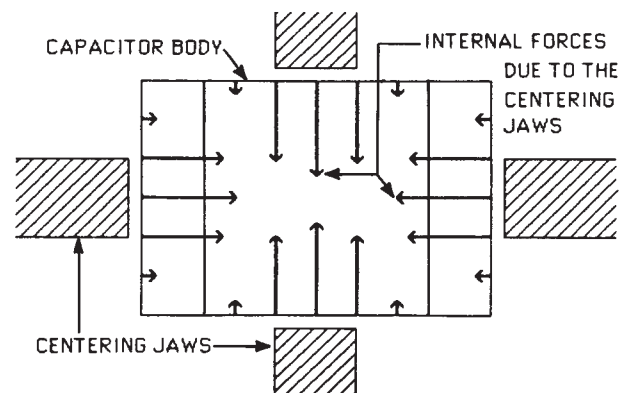
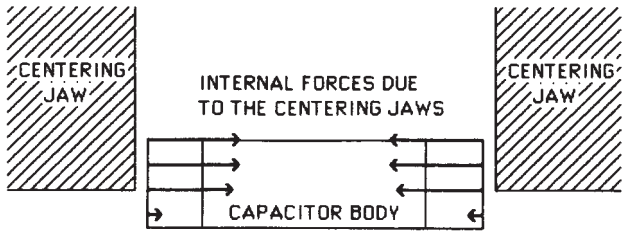

Figure 8. Top View of Capacitor Body, Centering Jaws and Force Concentration
Figure 9. Side View of Capacitor Body, Centering Jaws and Force Concentration
Top centering jaw machines have the alignment jaws or tweezers as part of the pick up mechanism (Figure 8) such that the part is centered (aligned) when plucked from the component carrier (embossed tape, etc.) or during the travel time between pick up and placement. Capacitors, resistors, transistors and integrated circuits (IC) require different sizes of centering jaws which slow production rates with jaw changes. It is common practice to adjust a single jaw set to accommodate the full range of components which results in higher forces on smaller parts when the jaws are adjusted to center large ICs. Not only are higher forces used but the jaw contact areas are reduced so centering is done only on the IC body and not the leads. Now only a small portion of a capacitor's side and end surface area is used for centering which gives rise to pressures that exceed the rupture or tensile strength of the ceramic causing internal defects and visible cracks (Figure 9).